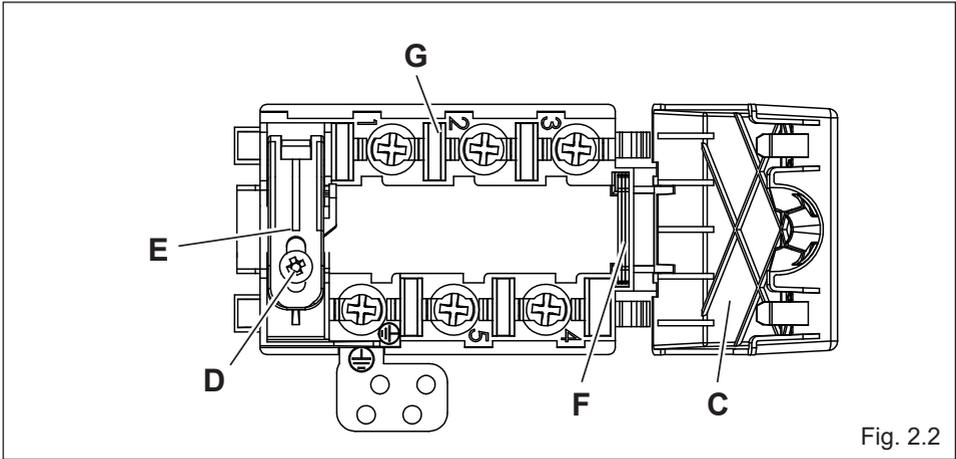

Fig. 2.2
- Unscrew the screw “D” and open completely the cable clamp “E” (figs. 2.2).
- Position the U bolts “F” onto terminal board “G” (figs. 2.2) according to the diagrams in fig. 2.3.